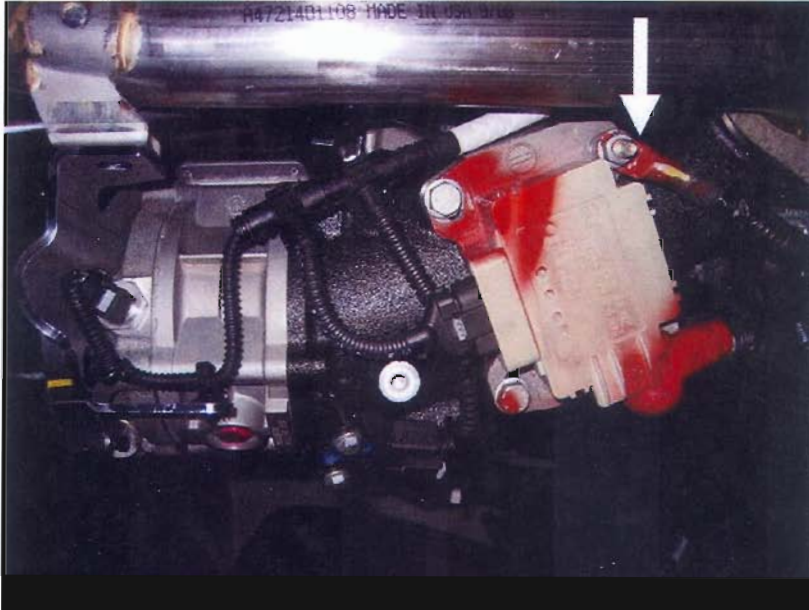

Figure 2 – Negative (Ground) Cable Connection At Grid Heater
8. Disconnect the negative (ground) cable from the grid heater and the vehicle frame and completely remove the cable from the vehicle. See Figure 2.